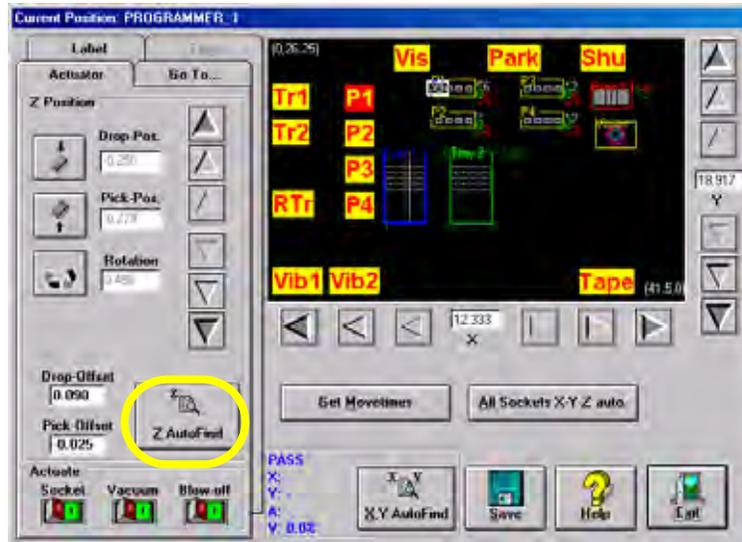

Figure 3-26—Click Z AutoFind
- Click **Z AutoFind**. See *Figure 3-26*. Ensure that the device is picked up in the center.